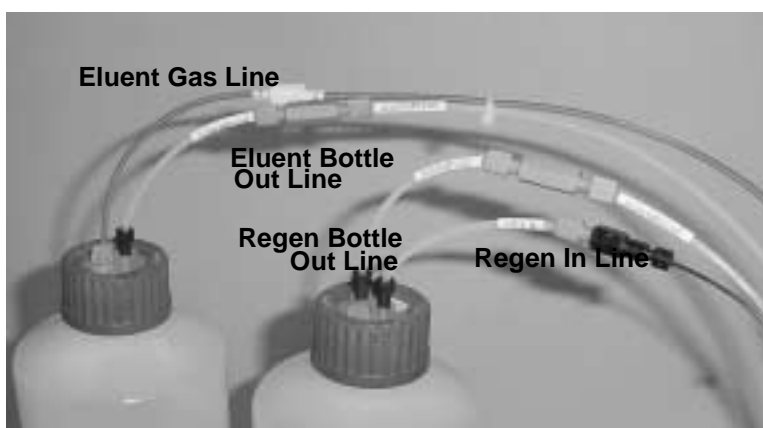

Figure B-5. Reservoir Connections
2. Connect the gas and liquid lines from the DX-80 to the lines exiting the eluent and regenerant reservoir caps (see Figure B-5) as follows: